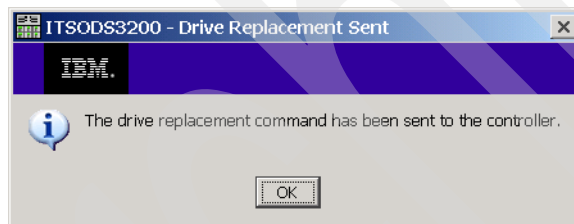

Figure 11-31 Drive Replacement Sent
- Click the **Replace Drive** button to start the operation. The confirmation window (Figure 11-31) appears.